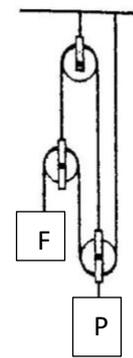

Fig. 2
- ✓ Mount the device as shown in the figure 2, and again apply a load (masses of the equipment) to the movable pulley.
- ✓ Repeat the measurements for the systems shown in figure 2 using the same method.
Fill in the table below for the layout in figure 2: